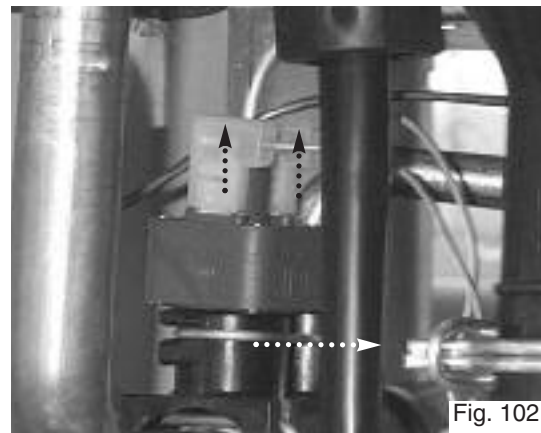

Fig. 102
2. Pull off the connections. Then remove the pressure switch by releasing its securing clip (see Fig. 102).